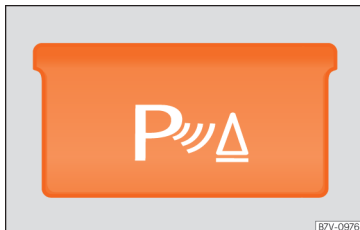

Fig. 268 Detailed view of the centre console: button to connect or disconnect the park assist.
- Press the **P** button when the ignition is switched on » **Fig. 268**.